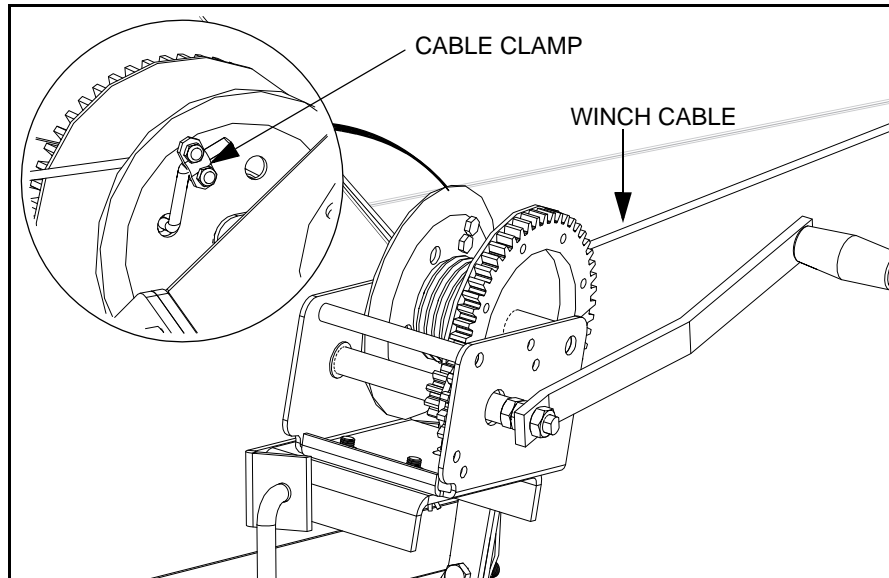

Figure 3.39 Connecting the Winch Cable to Spool
6. Wrap the over and around the winch spool at least three times, then insert the cable end through the hole provided in the side of the spool and secure the end with the provided cable clamp (Figure 3.39).